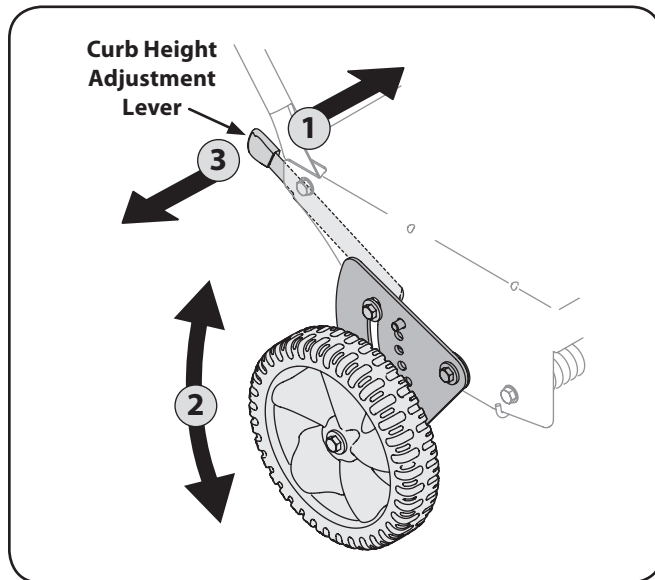

Figure 5-3
1. Lower the right rear wheel by moving the curb height adjustment lever slightly to the left. See Figure 5-3.
3. Release the curb height adjustment lever to lock the wheel in position. See Figure 5-3.